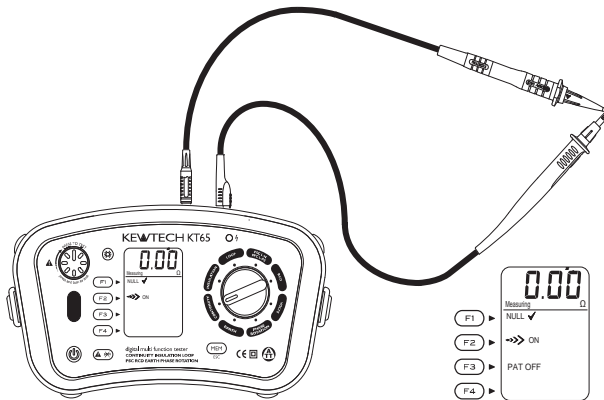

Fig. 13
- 4 Connect the ends of the test leads firmly together (see Fig.13) and press and lock down the test button. The value of the lead resistance will be displayed.
- 6 Release the test button. Press the test button and ensure the display reads zero before proceeding. While using the Continuity null function, “NULL ✓” is displayed on the LCD as indicated in Fig.13. The null value will be stored even if the instrument is powered off. This memorised null value can be cancelled by disconnecting the test leads and pushing the Continuity Null button (F1) with the test button pressed or locked. When this is cancelled you will know because NULL OFF is displayed on the LCD.